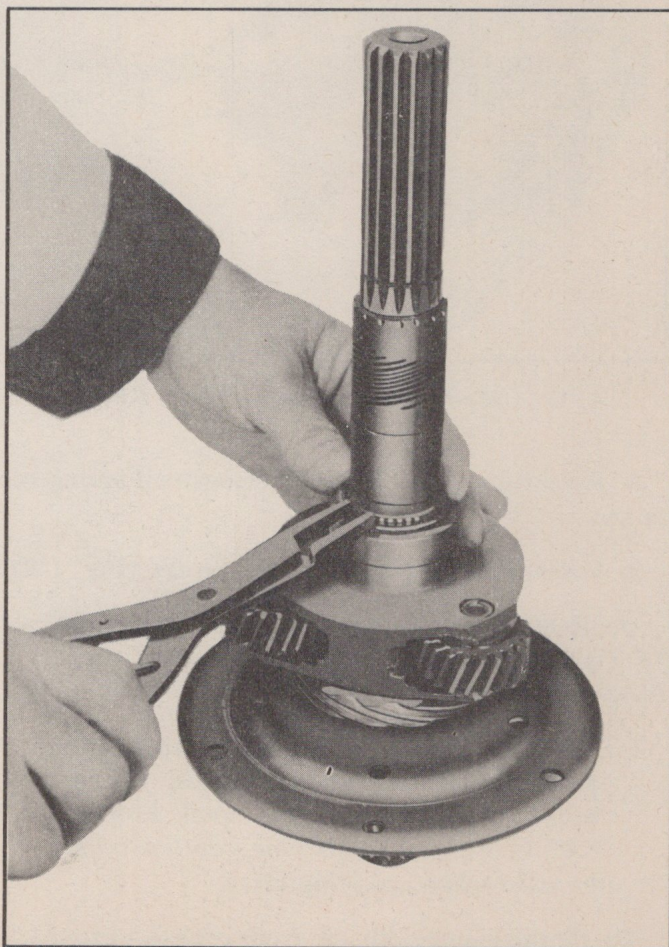

Fig. 155—Removing Reverse Planet Carrier Snap Ring
16. Remove snap ring that holds reverse planet carrier to the output shaft (Fig. 155).